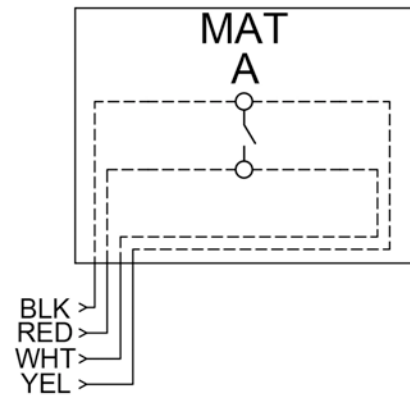
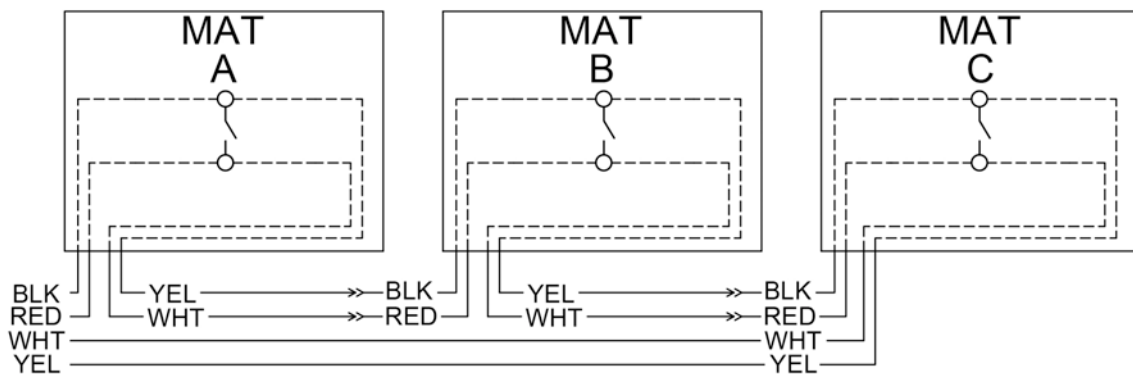

Figure 8A: Single Mat - Single 4-Conductor Lead
Figure 8B: Multiple Standard Standalone Mats – Single 4-Conductor Leads
ArmorMat Safety Mats are usually supplied with a single 4-conductor lead. This configuration is suitable for both single-mat installations as shown in **Figure 8A**, and multi-mat installations as shown in **Figure 8B**.
Step 5 – In an application where multiple mats are used to protect an area, they must be connected together. Refer to **Figures 8B thru 8D**. If necessary, cut the cables to length to facilitate the required interconnections. Always leave some slack in the cables so that a mat can be disconnected and reconnected at a later date, if service or maintenance is required.